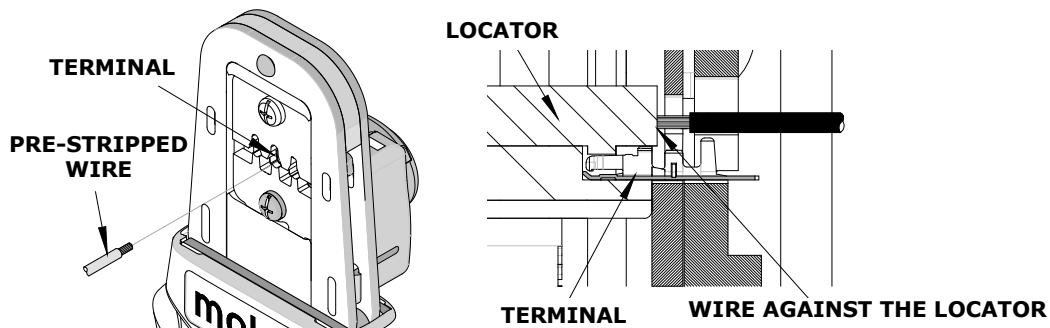

Figure 6
6. Insert the properly stripped wire through the terminal and against the locator. See Figure 6.